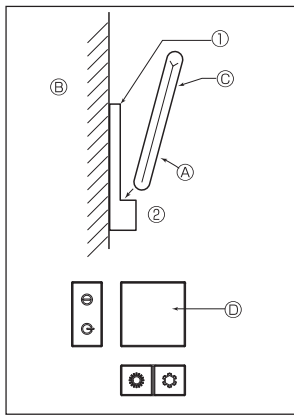
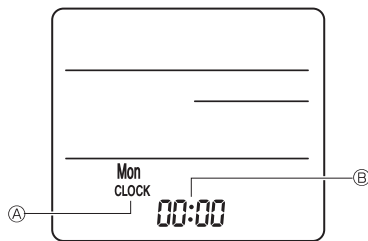

Fig. 7-9
Fig. 7-10
2) Installation method (Fig. 7-9)
- ① Attach the remote controller holder to the desired location using 2 tapping screws.
- ② Place the lower end of the controller into the holder.
④ Remote controller ⑤ Wall ⑥ Display panel ⑦ Receiver
3) Setting (Clock setting) (Fig. 7-10)
- ① Insert batteries or press the ● CLOCK button with something sharp. [CLOCK] ④ and [:] ⑤ blinks.
- ② Press the RESET ● button with something sharp.
- ③ Press the ▲ button to set the time.